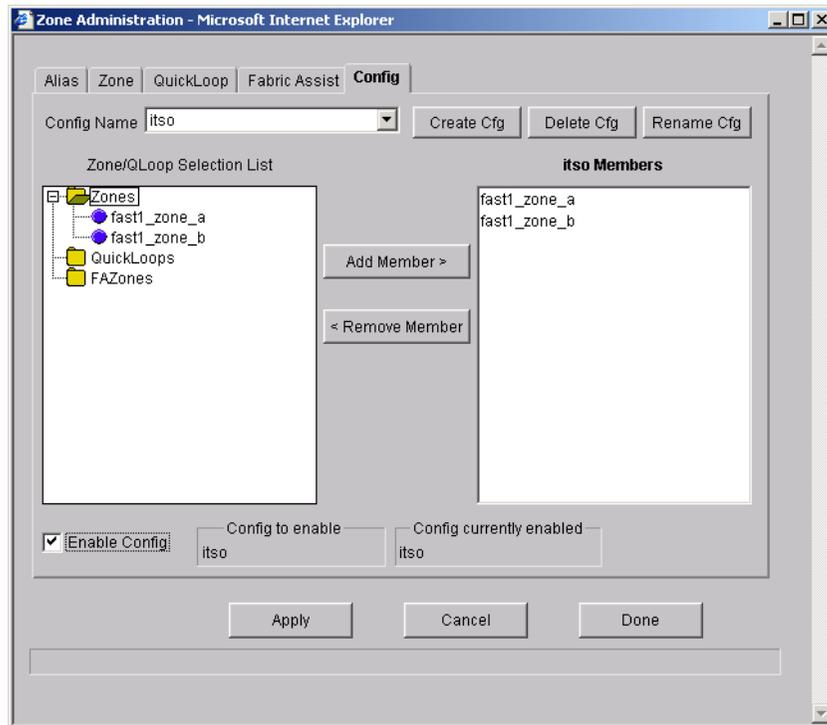

Figure A-11 Zone configuration enabled
- After updating the zones, it is a good practice to ensure that they are enabled. Select the **Config** tab and check **Enable**, as shown in Figure A-11: